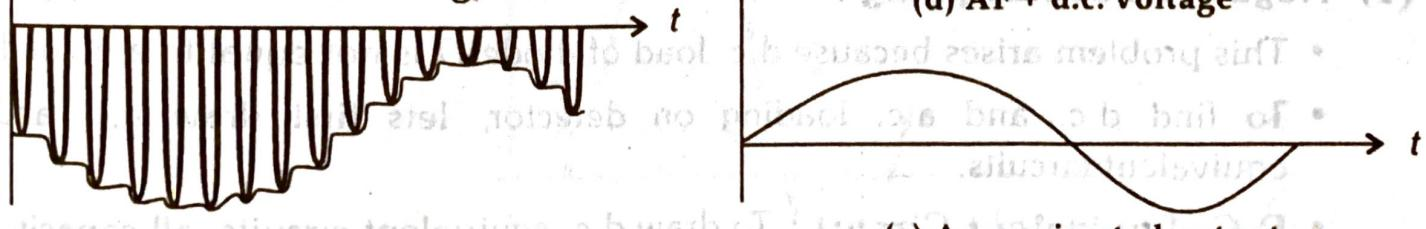

Fig. 6.4
- During negative half cycle of AM wave, the diode is forward biased. Therefore it detects the negative envelope of AM waveform. [Figure 6.4(b)]
- So, at the output of this filter we get only the AF signal and -ve d.c. voltage. [Figure 6.4(d)]